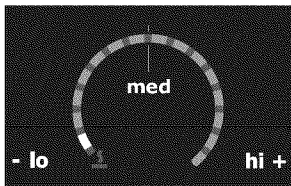
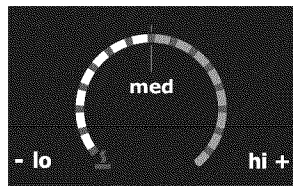
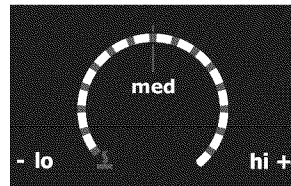
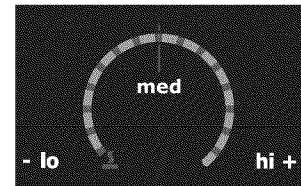

Fig. 5
Fig. 6
Fig. 7
Fig. 8
**ERRORS CODES XX** - The Minute Timer display digits showing an error code. "E." (Fig. 5) and a two digit number error code (Fig. 6) will flash in turn in the Minute Timer display.
**COOKING ZONE ON/OFF PAD** - Each Cooking Elements have separate ON/OFF key pads. Once the Main Power key pad has been touched to activate the cooktop, touch the corresponding Cooking Element ON/OFF key pad once to activate the Cooking Zone needed. The indicator light located above the key pad will glow (Fig. 8). If the corresponding **hi +** (increase), **med** or **- lo** (decrease) key pad is not touched, the request to turn the Cooking Element ON will cancel and the Cooktop Main Power will turn OFF. To set a Cooking Element power level touch the corresponding Cooking Element **hi +** (increase), **med** or **- lo** (decrease) key pad once. To turn OFF a Cooking Element, touch the Cooking Element ON/OFF key pad once. The Cooking Element Indicator Light will turn OFF (Fig. 7).
**AVAILABLE COOKTOP SETTINGS** - Your control provides different settings for each heating zone. Some of these power levels include **Keep Warm** (Fig. 4), **Lo** (Fig. 5), **Med** (Fig. 6), **Hi** (Fig. 7) and **OFF** position (Fig.8).